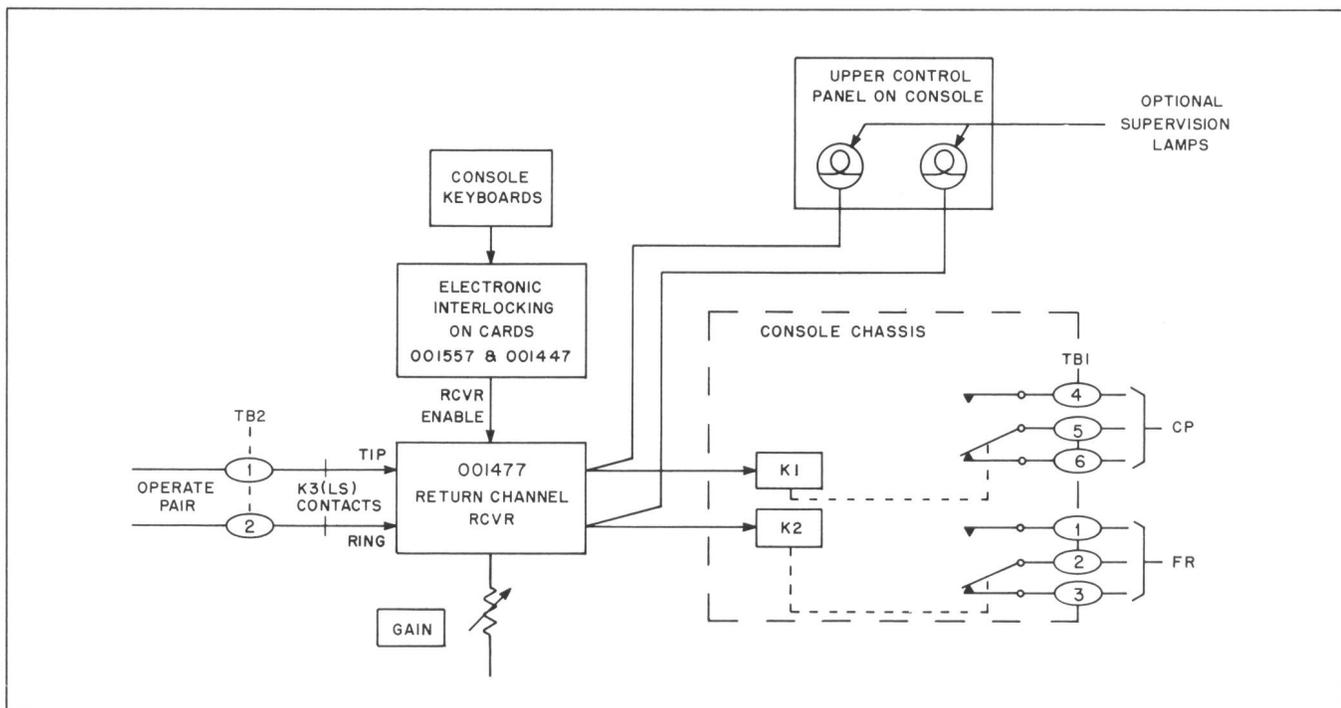

Figure 13 - Block Diagram of Components Comprising Master Station's Optional Return Channel
3.09 OPTIONAL RETURN CHANNEL - Since the return channel is used for tone signaling supervision, it is generally not "active" unless prior input-switching at the remote station has actuated the return channel transmitter. (See Figure 24.) The corresponding circuitry involved at the master station is shown in Figure 13, and the troubleshooting procedure is as follows: